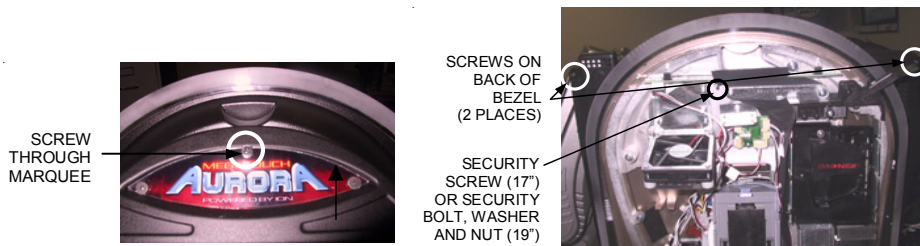

FIGURE 36 - SCREWS ON FRONT AND BACK OF BEZEL
5. Place something in front of the game to brace the bezel once the strain relief cord is undone, then remove the screw at the center of the marquee bezel and the 2 screws on the back of the bezel. For 17" games, remove the security screw inside the CPU section; for 19" games, remove the nut and washer securing the security bolt inside the CPU section. See Figure 36.
24. Close the monitor assembly completely, and fasten with 2 screws in the back of the bezel, 1 security screw (17") or security washer and nut (19"), and 1 screw in the front (through the marquee). See Figure 36.